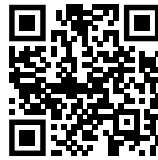

Fig. 145
- ▶ Hapni Liebherr SmartMonitoring Dashboard. (shihni Fig. 145)